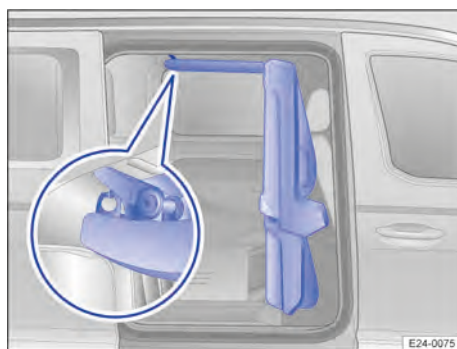

Fig. 76 Flexible partition in set up position.
3. Press the upper rear part of the partition wall upwards with the palm of your hand until the holder → Fig. 76 (close-up) engages with a click.
1. Pull the upper rear part of the partition downwards until the holder is released → Fig. 76 (close-up).